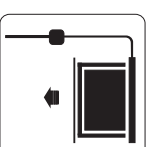

Figure 20
2. Turn the switch to position "—" to lower the screen; it will come down slowly. When it is all the way down, it will stop automatically. (Figure 20).